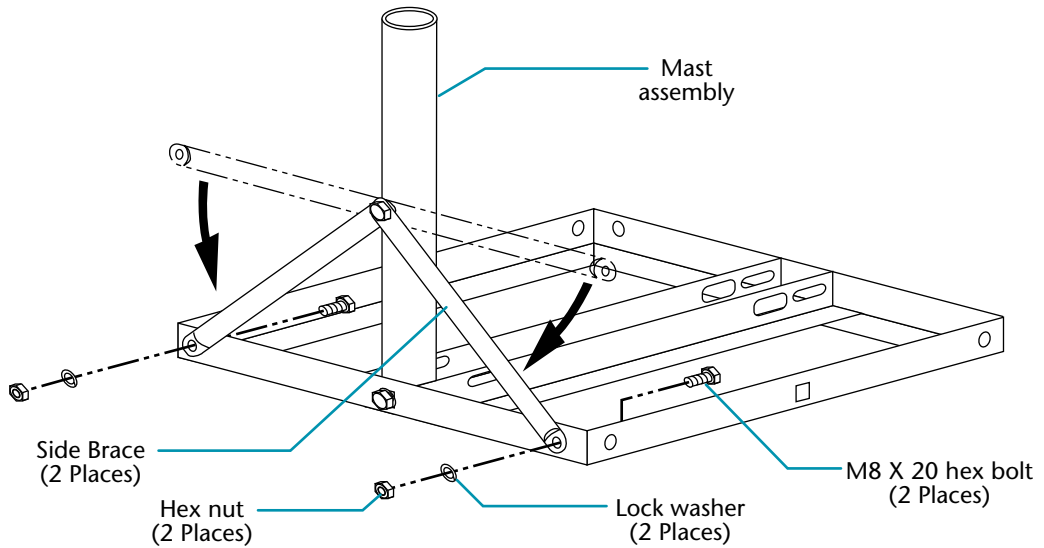

Figure 4-8. Securing side braces to base
6. Swing side braces down and align holes in braces with holes in base. Secure with two M8 X 20 hex-head bolts, lock washers, and hex nuts (see figure 4-8).